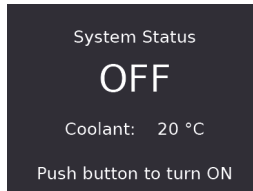

Figure 4-11 Standby screen
2. Press the **MODE** button a second time, and the Cooler enters standby mode (see Figure 4-11 on page 145).